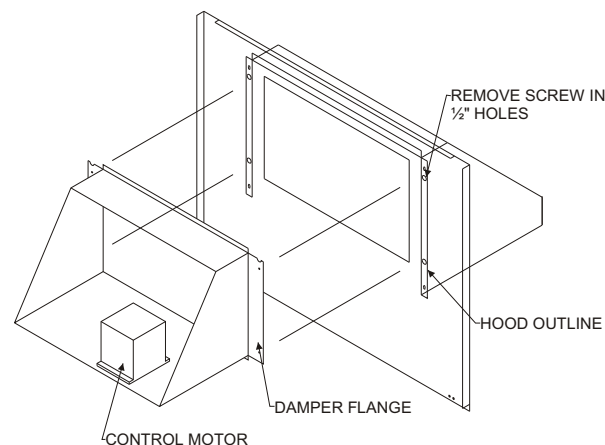

FIGURE 2
2. Remove 1/2" screws located in clearance holes of hood on OAD panel. See Figure 2.
4. Place damper section to engage 1" screws in flange of damper. See Figure 2.